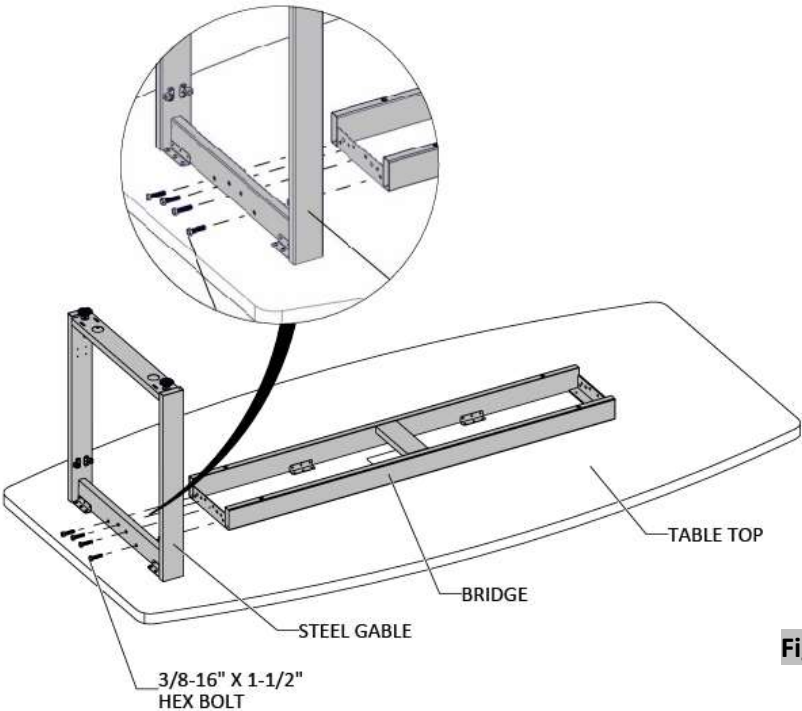

Figure 2
- 2.** To install the table base; position and attach the steel gable to bridge, using 3/8-16" X 1 1/2" Hex bolt, (Figure 2). Repeat this procedure to install the other steel gable.